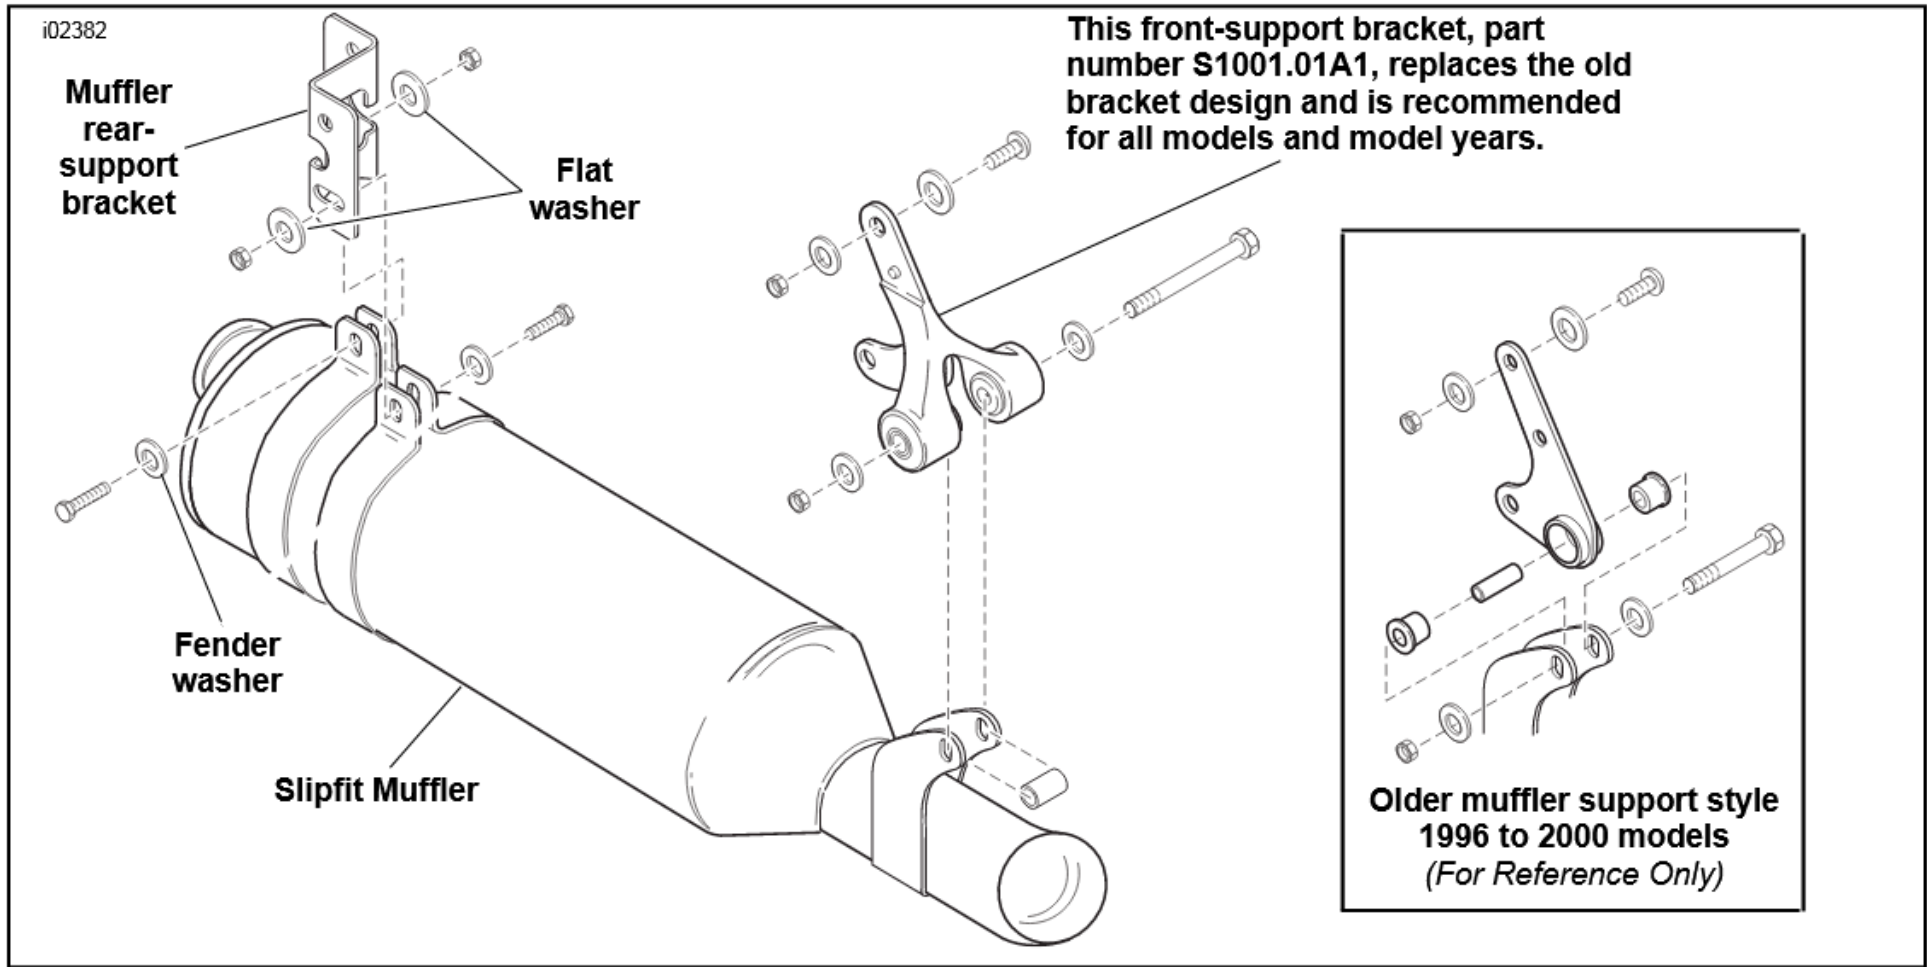

Figure 4. Slipfit Muffler and Stock Exhaust-Mounting Hardware
1. See Figure 4. Install the muffler discs (5) into the Slipfit muffler using the screws (3) provided. The muffler-disc endcap (4) is always the last disc installed.
2. Install the muffler end cap (1) onto the muffler body (2).